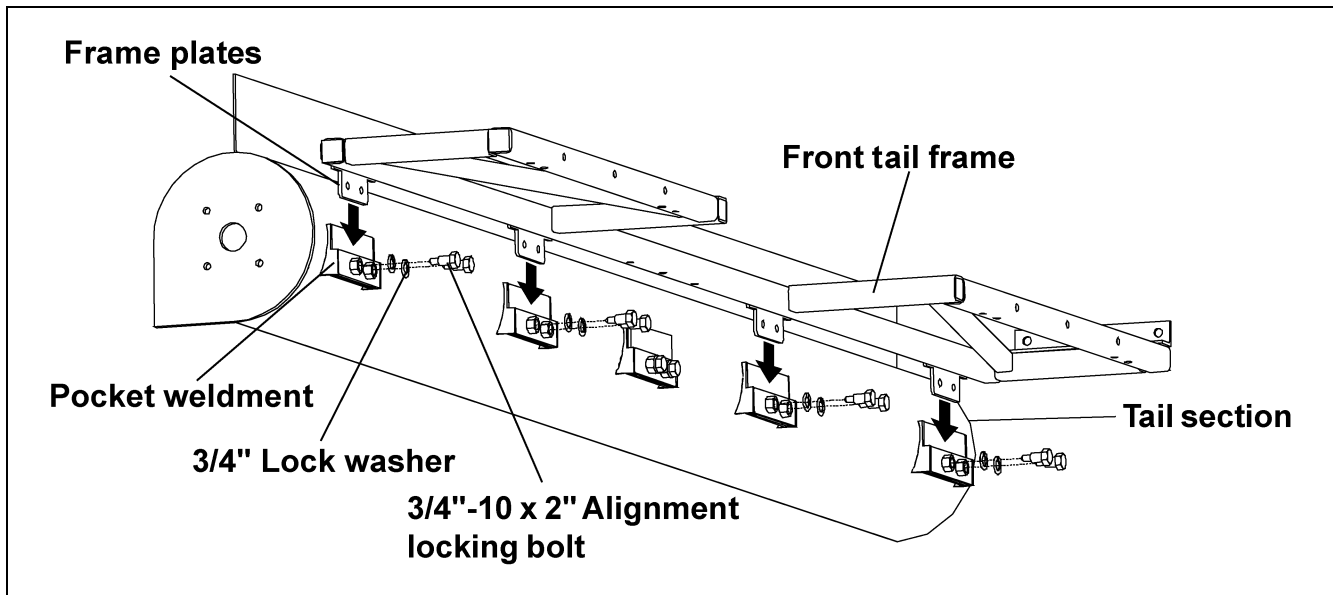

Figure 5C
2. Fasten front tail frame to tail section using four (4) 3/4"-10 x 2" alignment locking bolts and lock washers. (See Figure 5C.)